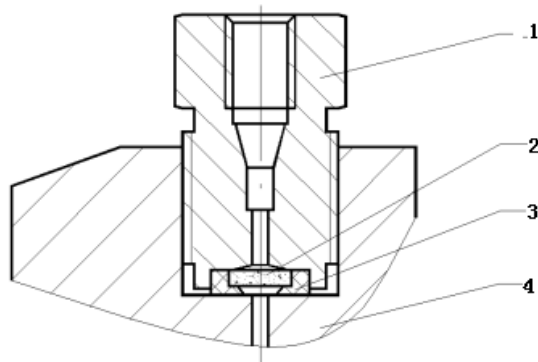
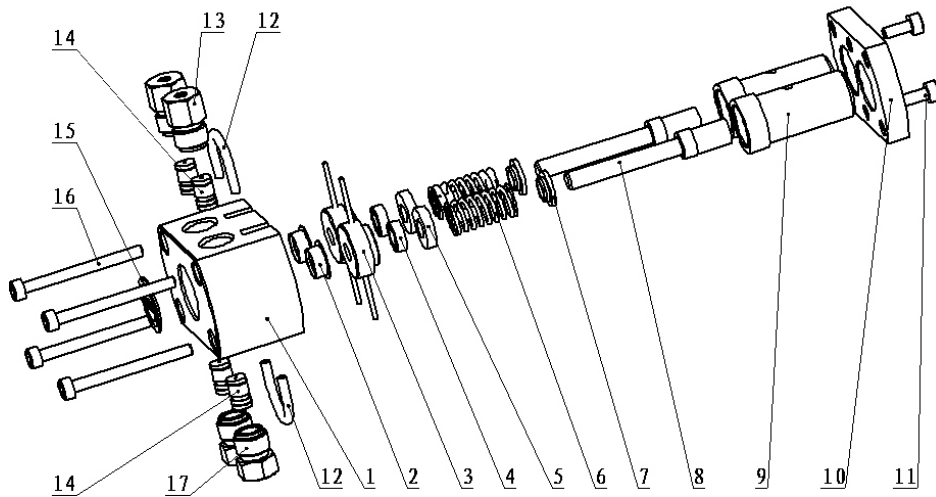

Figure 4-3: Assembly of the online filter
Figure 4-4: pump head assembly
- 4) When installing the pump head, pay attention to evenly tighten the four fixed screws, referring to figure 4-3.
Pump head disassembly and installation methods are as follows (Refer to figure 4-3, figure 4-4):
- 1) Place the pump head body on a flat surface. Use 2.5# hexagonal key to unscrew the 2 screws, #11 on Figure 4-4. Remove the clamp(10#).
- 2) Unload the sleeve (figure 4-4 #9), plunger rod components (figure 4-4 #8), plunger spring(figure 4-4 #6), locating sleeve(figure 4-4 #3) etc.
- 4) Take out the primary seal carefully (figure 4-4 #2)(user should not remove it unless replace a new one is needed).
- 5) Put the new primary seal (the openings with spring should be in the direction of the pump head) into the pump head body (figure 4-4 #1).
Place all parts in order according to figure 4-4. Install the pressure plate.